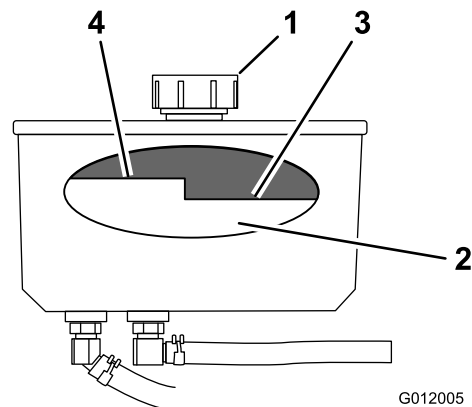

Figure 72
4. Clean area around cap and filler neck of hydraulic tank (Figure 72).
5. Remove cap from filler neck. Look inside to check the fluid level in the reservoir. (Figure 72).
Note: The fluid level should be to the top of the hot level of the baffle, when the fluid is warm (Figure 72).